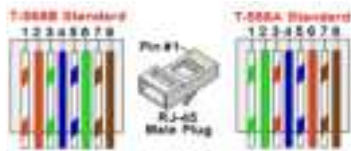

Figure 2: Standard cable wiring
- c. Insert the eight wires into an RJ45 connector (see *Figure 2*).
7. For the switch/router side, use a pre-crimped cable or use a crimper to prepare an RJ45 communication connector: Insert the eight wires into the RJ45 connector in the same order as above (see *Figure 2*).